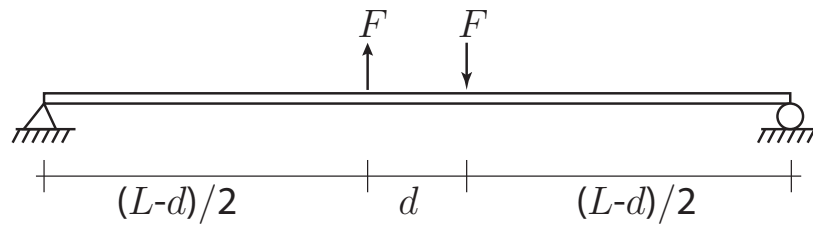

Figure 9: Problem 9.
9. For the beam shown in Fig. 9, find the support reactions.